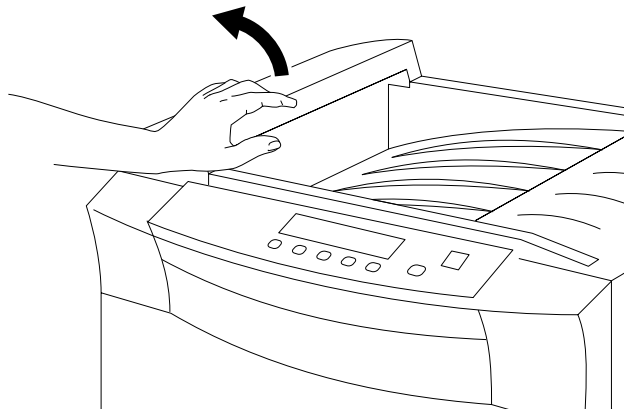

Figure 3-61 Opening the Ejection Cover
1. Swing open the ejection unit cover as shown in Figure 3-61.